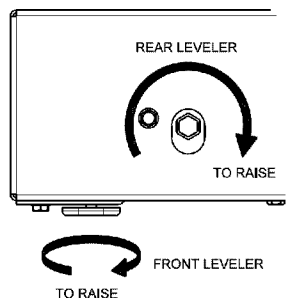

Figure 16
- To adjust the height of the cabinet back, use an adjustable wrench and turn the leveling bolt clockwise to raise or counterclockwise to lower. See Figure 16.
- To adjust the height of the cabinet front, turn the front leg leveler clockwise to raise or counterclockwise to lower. See Figure 16.